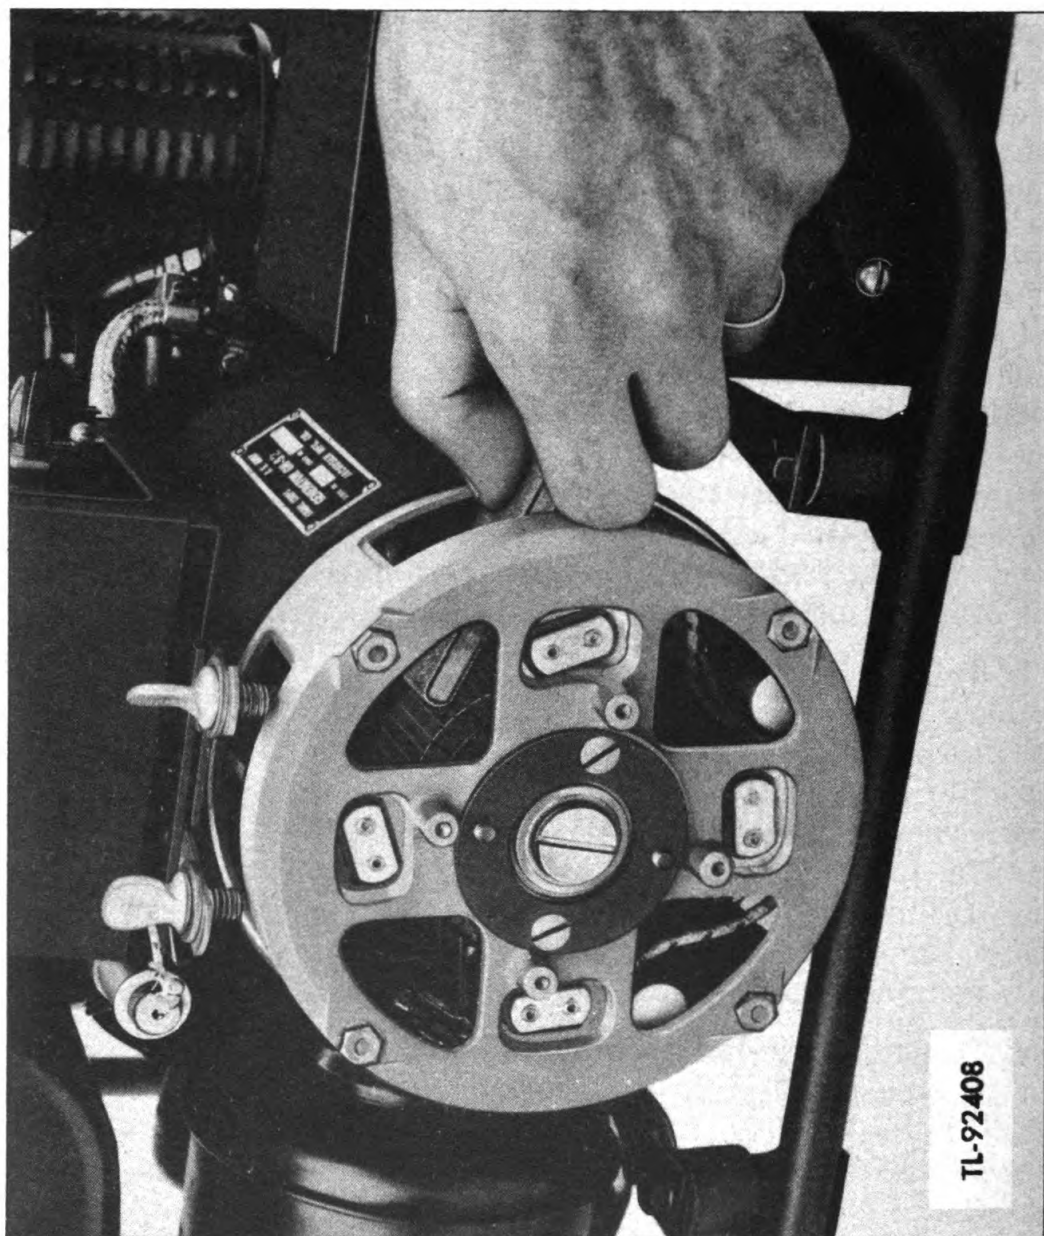

Figure 18. *Dressing commutator*
a. To Clean Commutator. Access to the commutator is possible by removing the four screws which hold the end cover in place, then removing the cover. To clean the commutator (fig. 18), use a piece of wood or other flat nonmetallic object, about the same width ($\frac{1}{2}$ inch) as the #00 sandpaper furnished with the equipment. With the armature rotating, place the strip of sandpaper on the object in use and hold it on the commutator exactly as shown in figure 18. Stop the unit and, with a small brush or pointed stick, remove dust or carbon from between the bars of the commutator.